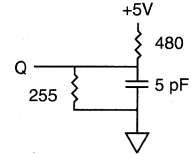

Fig. 2 OUTPUT LOAD EQUIVALENT
6. ^tHZCE and ^tHZWE are specified with CL = 5pF as in Fig. 2. Transition is measured ±500mV from steady state voltage.